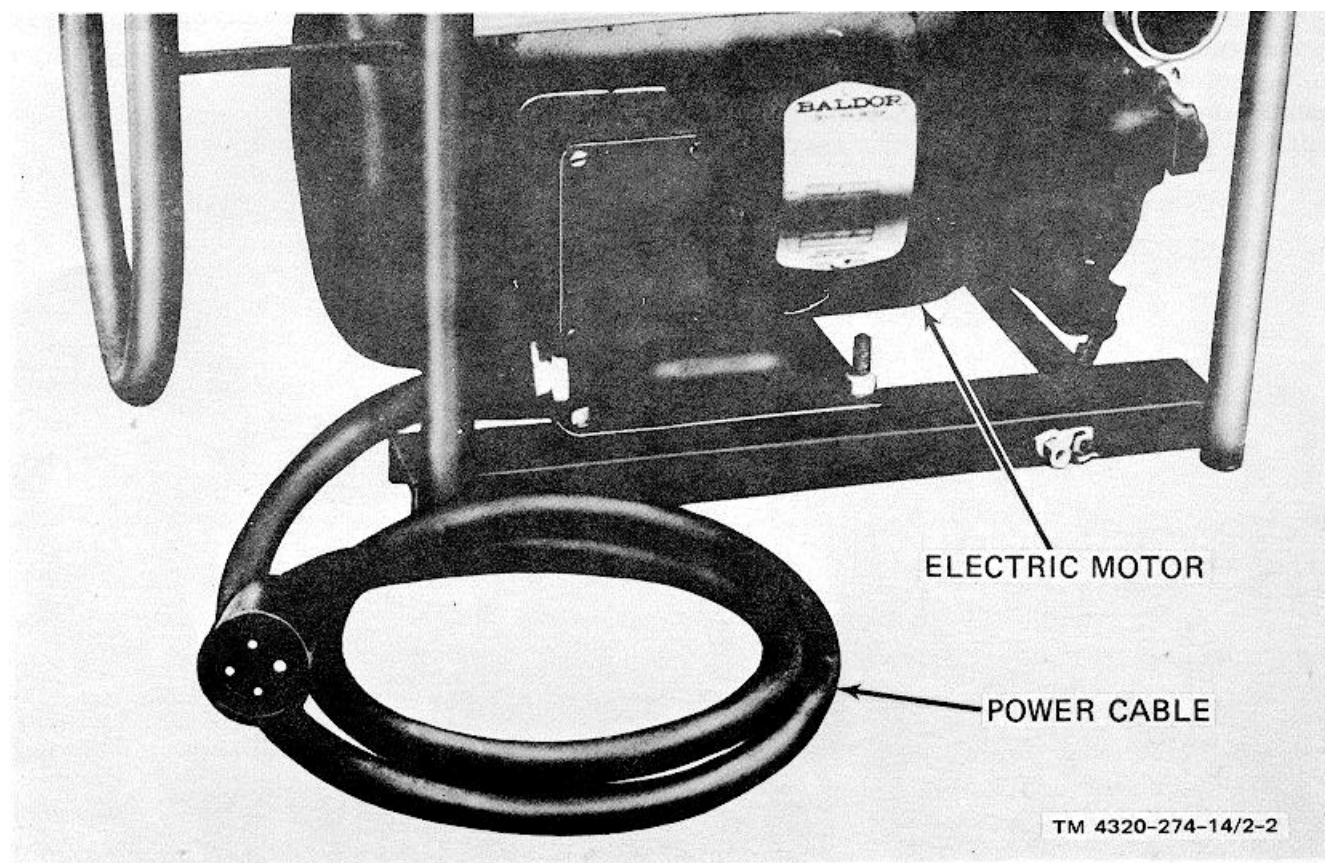

Figure 2-2. Power cable.
**b. Starting Instructions.** To start the electric motor powered pump, connect the power cable (fig. 2-2) to a 3 phase, 208 volt, 60 hertz power source.